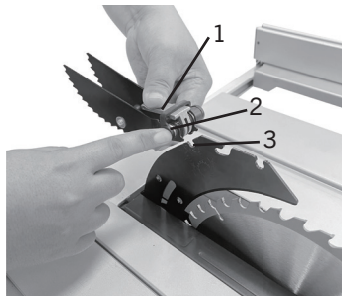

FIG. 9
Press down on the pawl socket (1) to adjust the pawl to the appropriate angle, and simultaneously press down on the pawl locking pin (2). Then install the pawl in the hole (3) at the top of the riving knife, release the pawl socket and pawl lock pin, and clamp the pawl onto the riving knife (Fig.9)